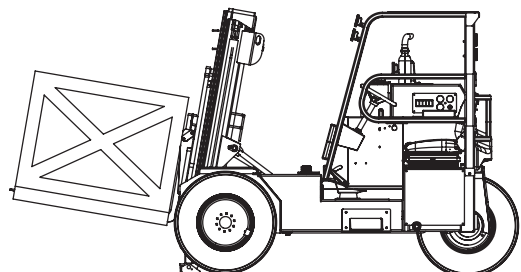

Fig 2
2. Move forward slowly, until the forks are fully engaged and the load is against the backrest. Lower the stabilizers. Raise the forks to lift the load. Tilt the mast back, placing the load against the backrest. Retract the mast fully. Raise or lower the forks to transport position, side shift the mast to center the load as needed. Raise the stabilizers. *Fig. 2*